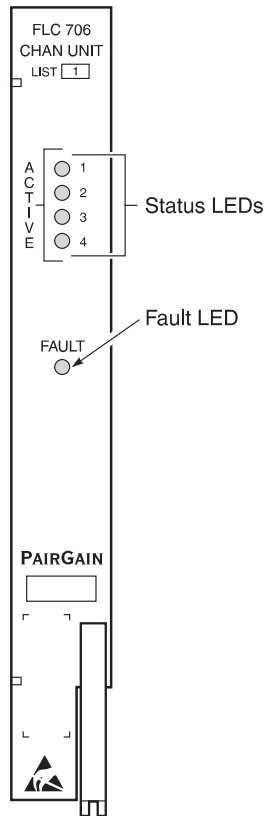

Figure 1. FLC-706 ISDN Channel Unit Front Panel
**1.1** The PairGain® PG-Flex FLC-706 List 1 ISDN Basic Rate Interface (BRI) Channel Unit (Figure 1) provides an interface to North American Integrated Services Digital Network (ISDN) Basic Access services through a PG-Flex Central Office Terminal (COT). The FLC-706 accommodates four ISDN channels and provides ISDN Line Unit Network Termination (LUNT) at the COT. The FLC-706 installs into a single slot of a PG-Flex Shelf.
2.1 Figure 1 shows the FLC-706 front panel. Table 1 lists the different states and indications for the FLC-706 front panel LEDs.